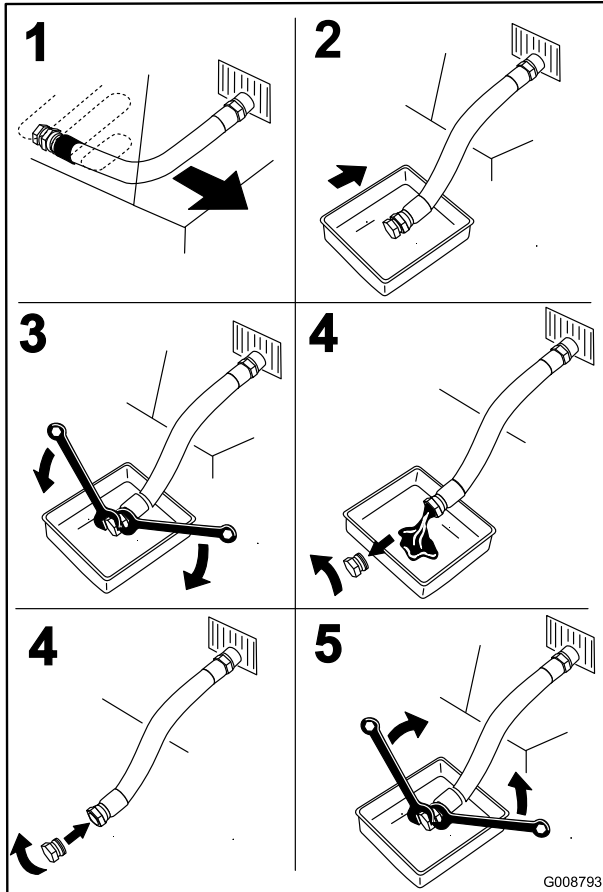

Figure 43
3. Stop the engine, remove the key, and wait for all moving parts to stop before leaving the operating position (Figure 43).